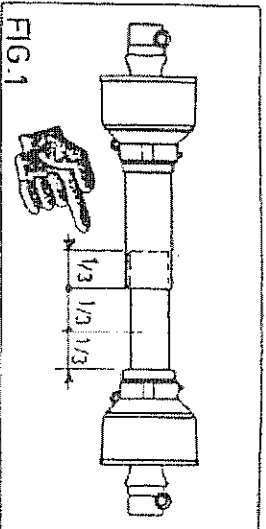

FIG.1
Fig. 1 - Place the rotor axle (1) in a stable position and then mount the tyres support (6). Use the pivot (8) and the Seeger circlips (18) to mount support (7) and (12) on to the support so they are facing in the direction shown in the figure. Use the washer (10) and nut (11) to assemble the wheels with their guards (4) and (5) on to the tandems. Make sure that, when the wheel brackets (14) are mounted on to the supports (13), the bracket plate matches the plate divided into sectors for the various supports. Use the screw (15), the nut (17) and the washer (16) to fasten the wheel bracket into position..
During both transport and use, avoid conditions where the Cardan transmission shaft is extended to the maximum. In all working conditions, the telescopic tubes must overlap by at least $\frac{1}{3}$ of their length (Fig.1).